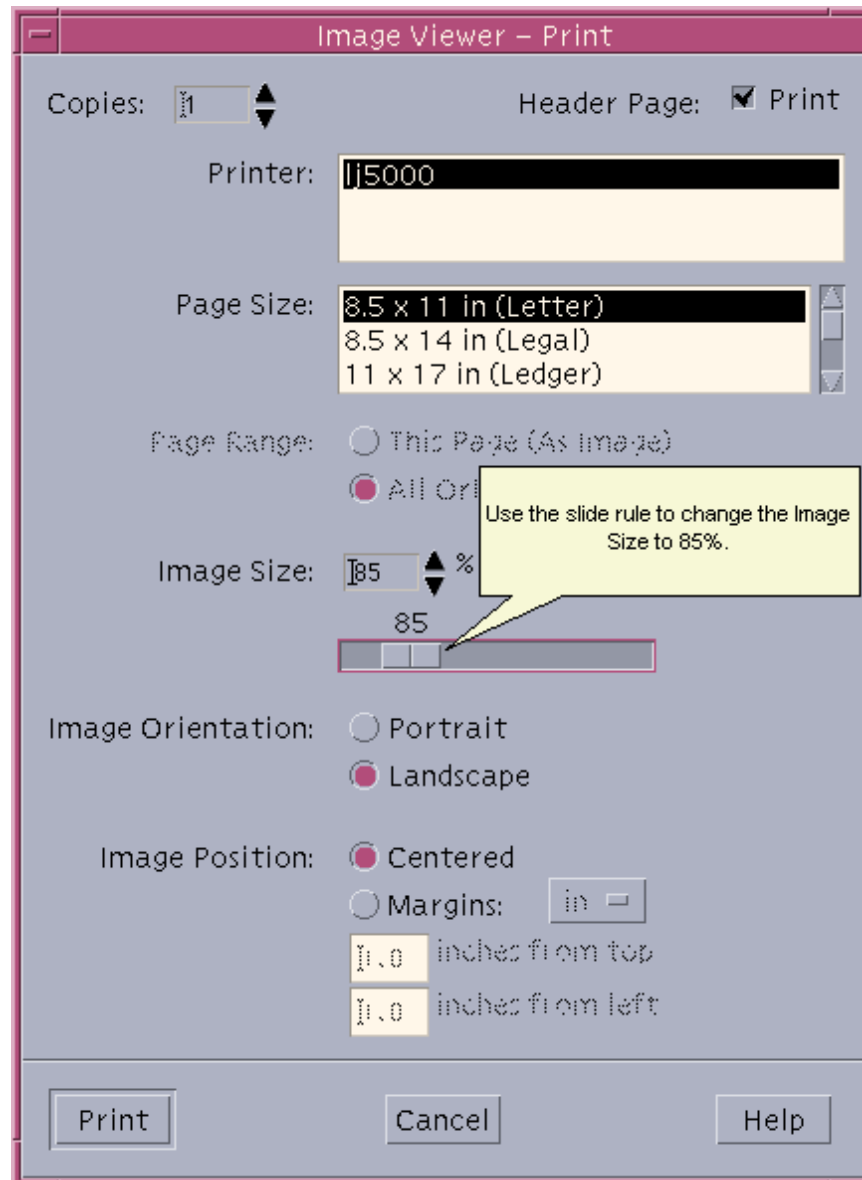

Figure 4 Image Viewer - Print Dialog Window
12. In the Image Viewer - Print window (see Figure 4), change the Image Size: to **85%** using the slider bar, then change the Image Orientation: to **Landscape**. Check the **Centered** button to place the image in the center of the print preview box, then click on the **Print** button at bottom of the Image Viewer - Print window. The Image Viewer - Print windows will disappear and the printer will produce the desired picture.